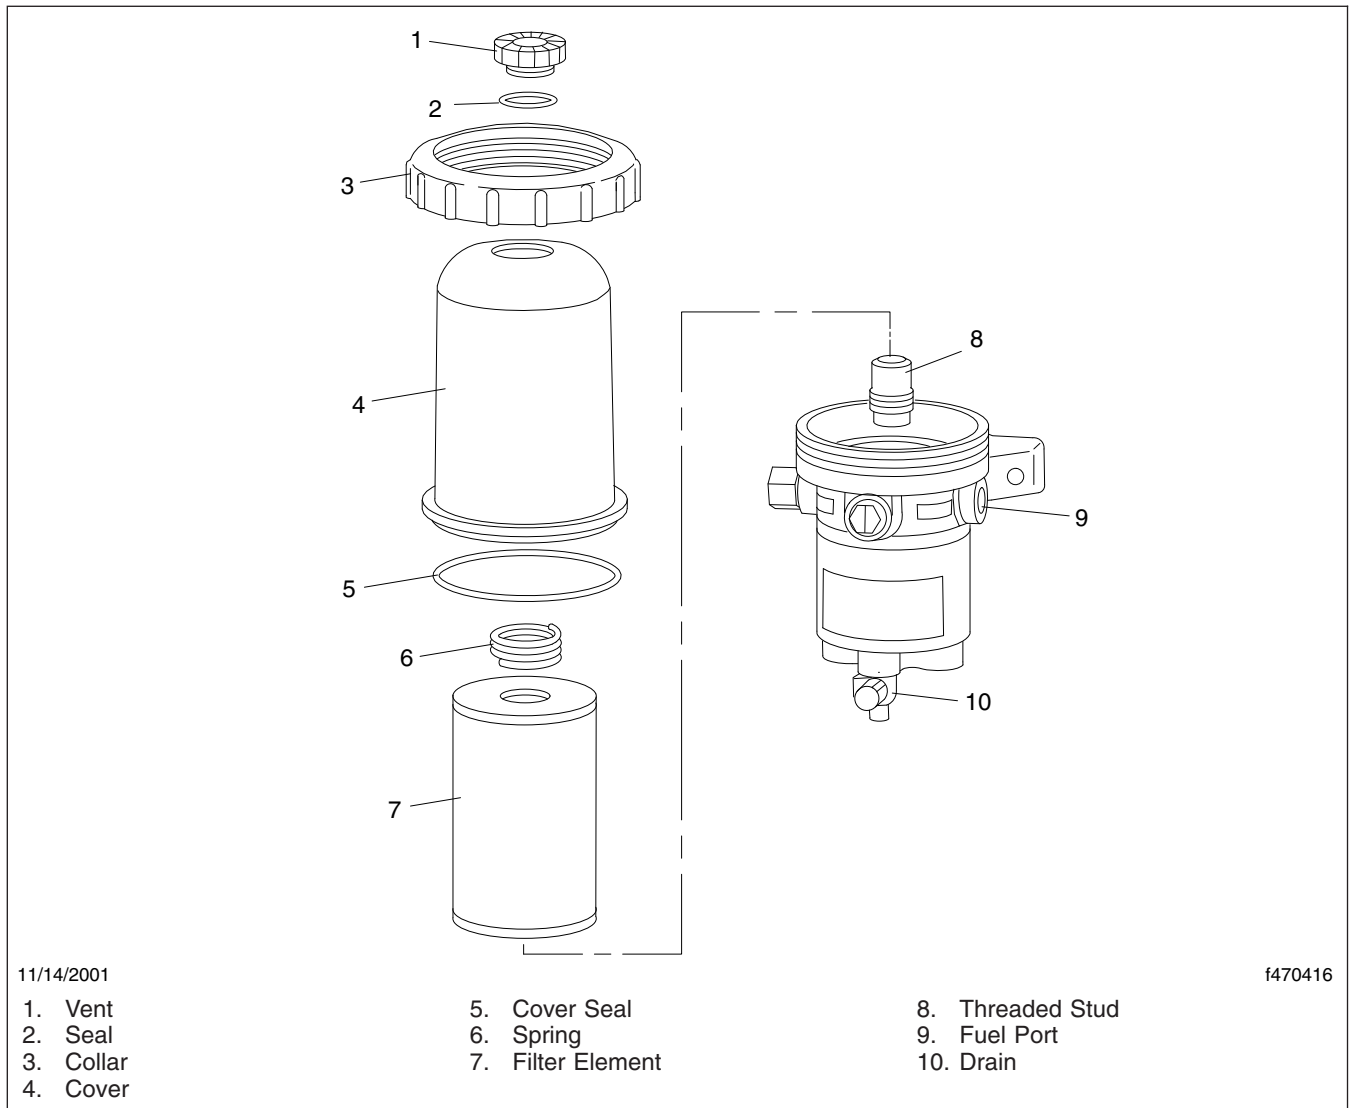
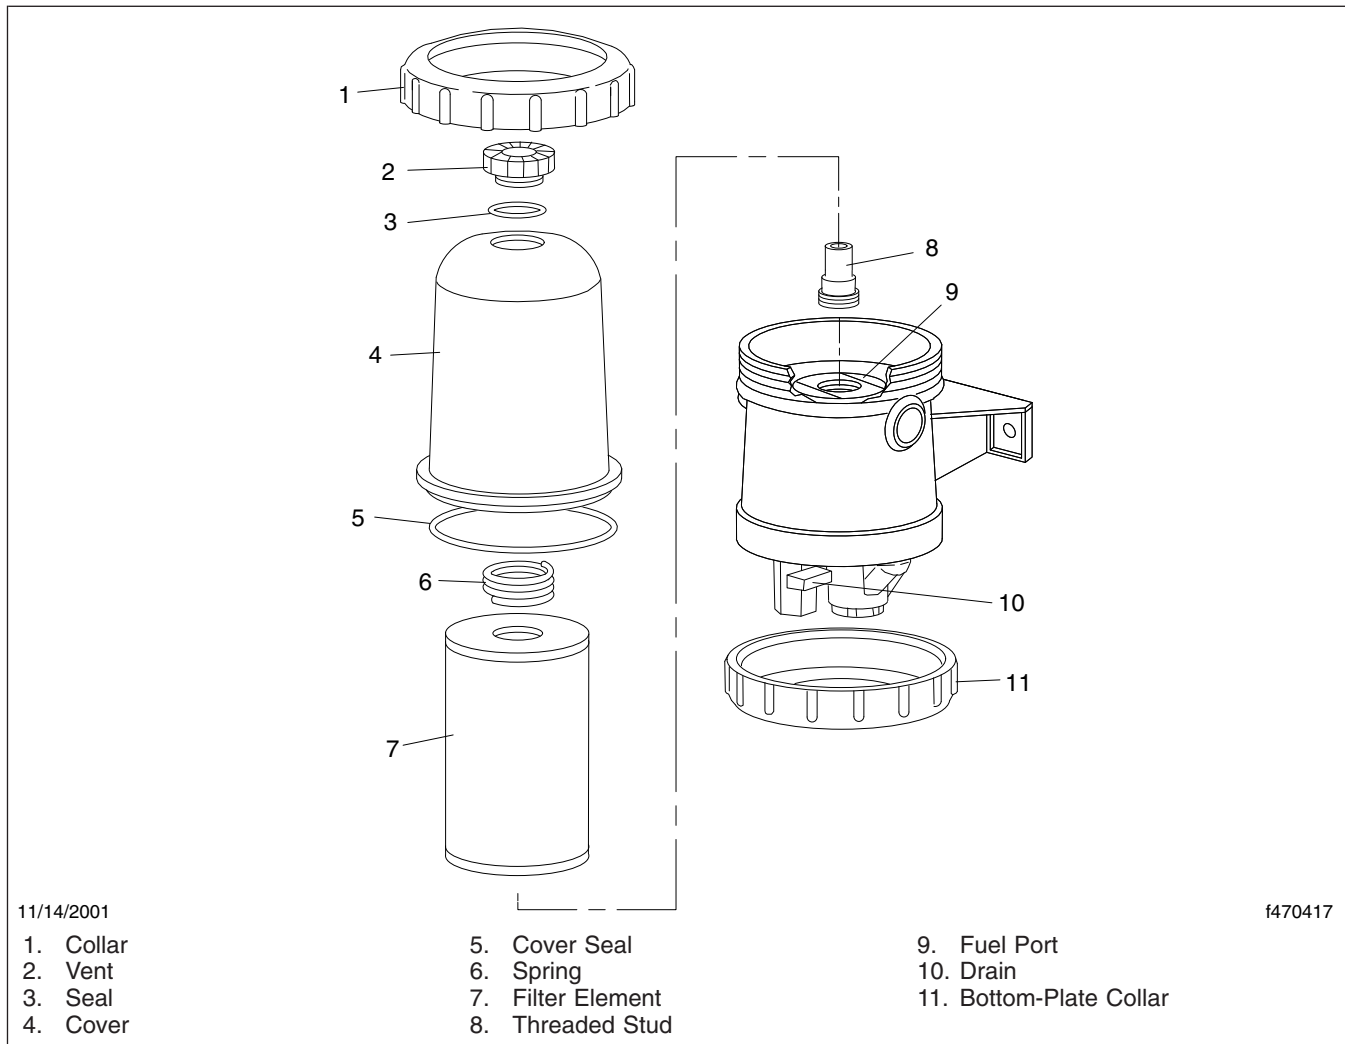

Fig. 24.2, Davco Model 232 and 233 Fuel/Water Separator
Fig. 24.3, Davco Model 382 Fuel/Water Separator
1. Drain the fuel until it is below the level of the collar. See Fig. 24.2 for the model 232/233 fuel/water separator and Fig. 24.3 for the model 382 fuel/water separator.